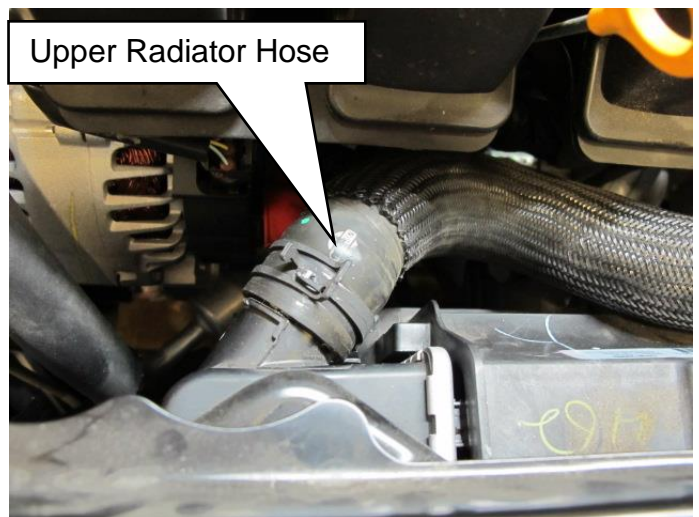

Figure 15
21. Disconnect the upper radiator hose from the radiator (Refer to Figure 15).